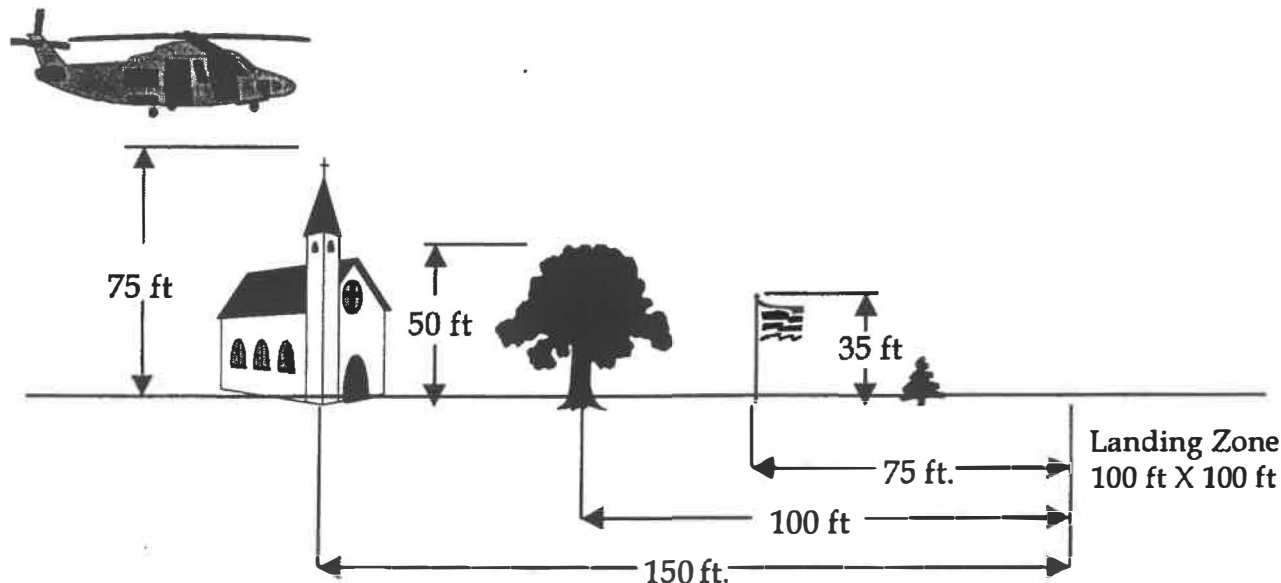

Figure 8-1
- Approach/departure path (Figure 8-1) - at least one path should be provided. It is preferable to have an approach angle with some forward speed instead of landing and takeoff straight up and down. Additionally, the path should be clear of towers, poles, wires, trees, signs, etc.